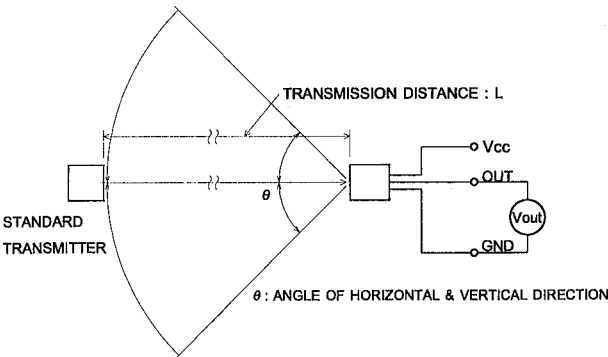

Fig. 3 TEST SYSTEM
(2) Test system: Shown in Fig.3.